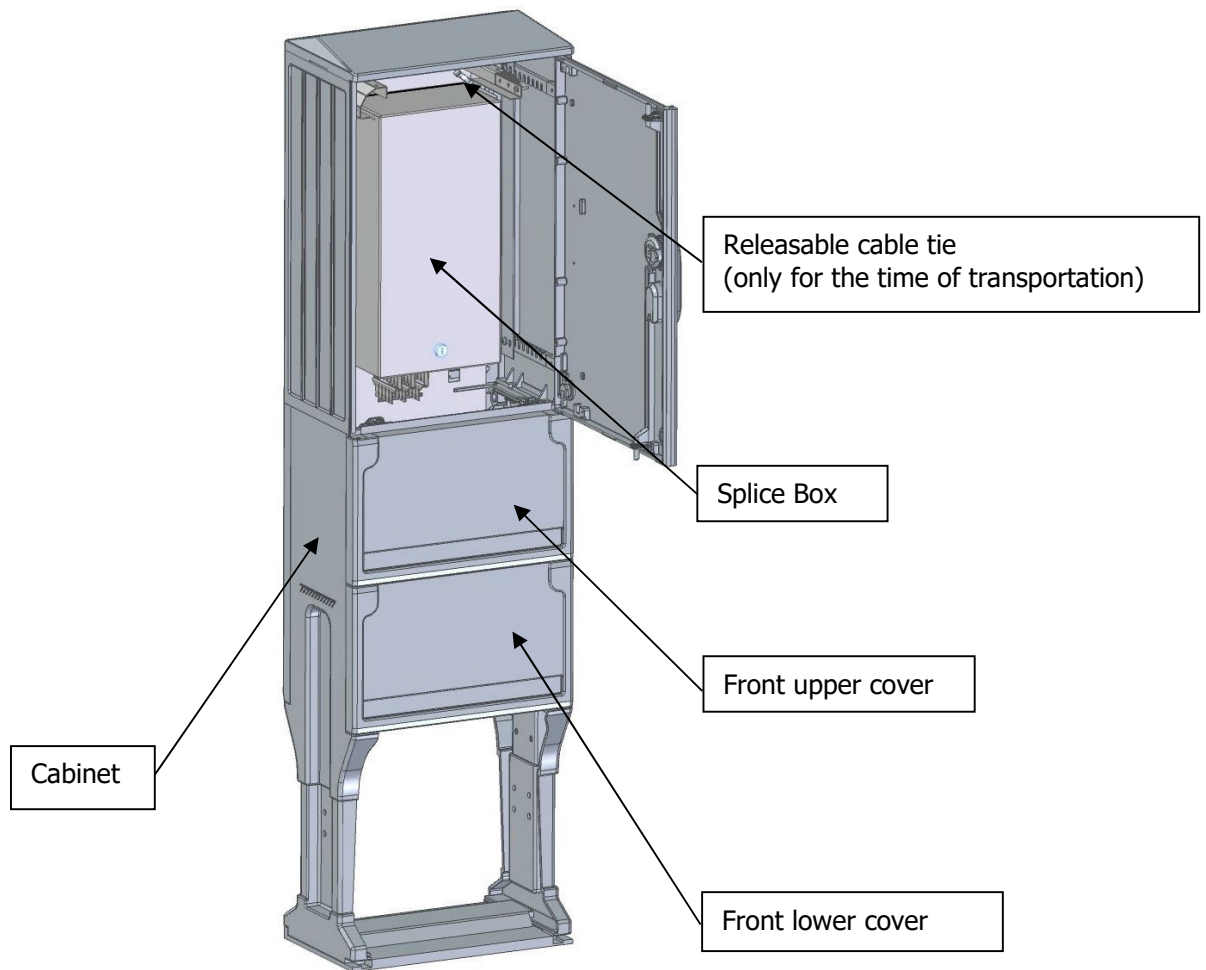
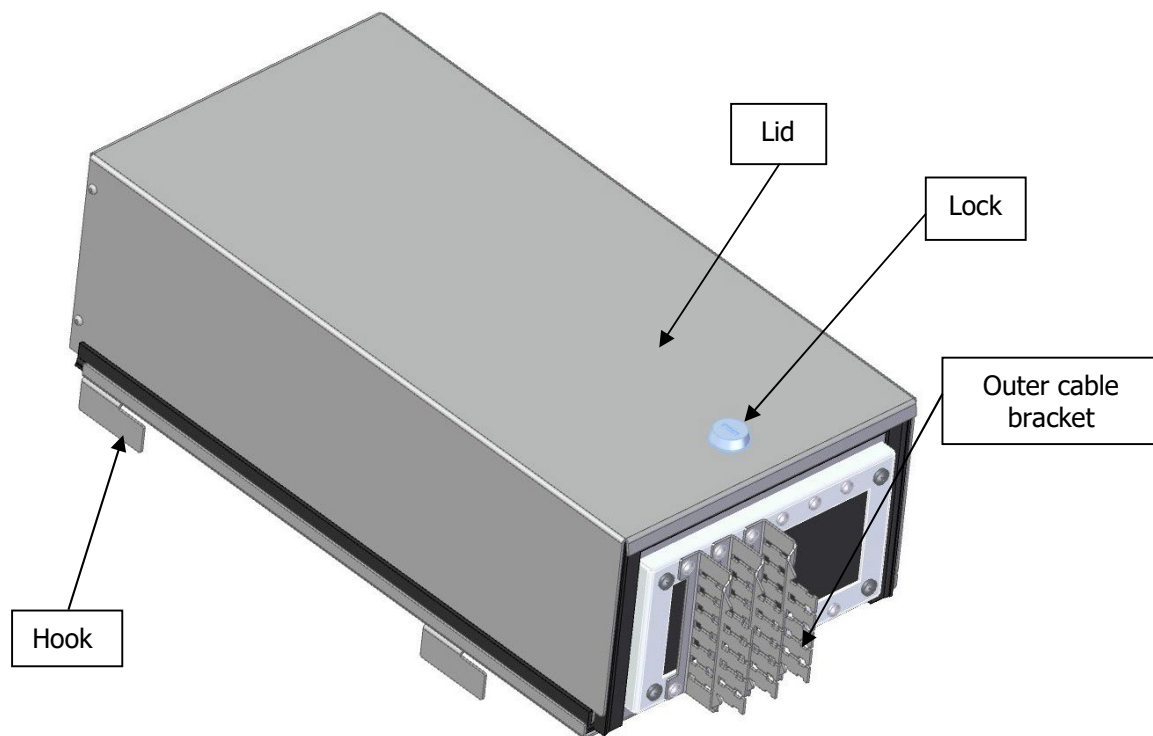
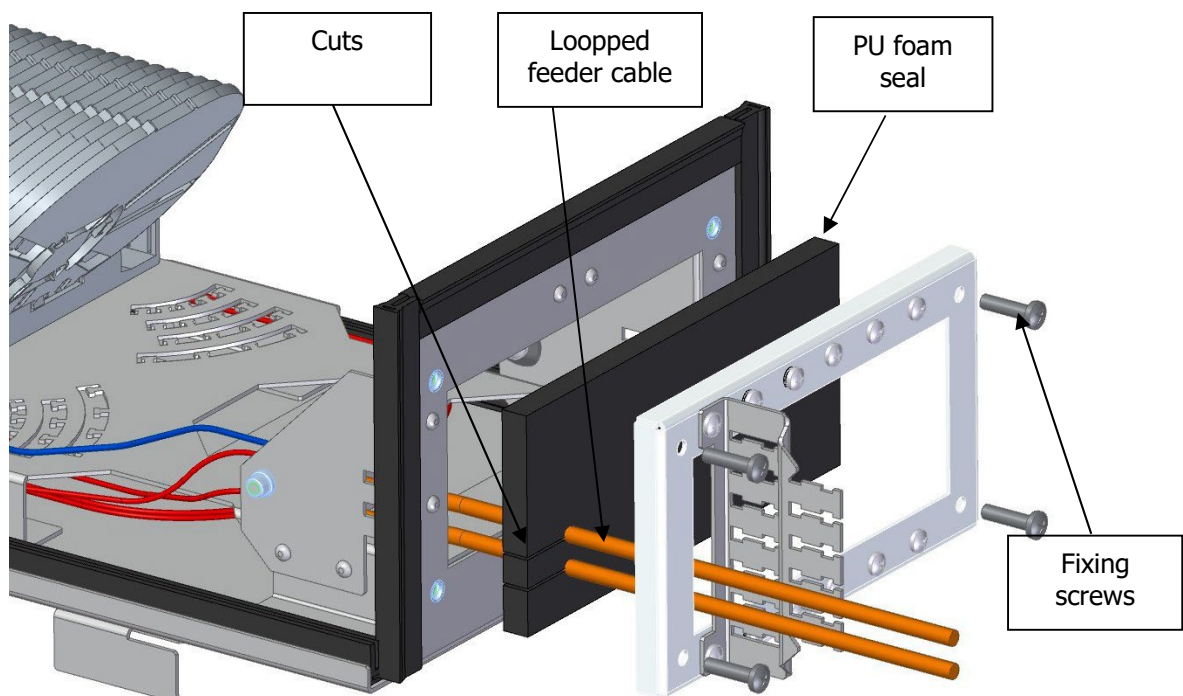

Fig.1. HF-MSS-3/12 Optical Fibre Distribution Cabinet
Fig.2. General view of the Splice Box
Fig.11. Fibre routing in hinged splice tray retention blocks
2. To splice fibres in the splice box, remove two releasable cable ties located at the upper corners of the box, see Fig.1. These are put only for the time of transportation. Remove the splice box by lifting it and sliding forward. The splice box is shown in Fig.2.
2. Remove two releasable cable ties located at the upper corners of the box, see Fig.1. These are put only for the time of transportation. Remove the splice box by lifting it and sliding forward. The splice box is shown in Fig.2.
4. Insert the uncut feeder cable loop into the cabinet. The length of the looped cable should be about 18 m measured from the cable entry points in the cabinet. The feeder cable mid span access is to be made in the middle of the cable loop with the recommended distance of 3 m. The looped cable may be shorter and amount about 16 m, but then the cutting point of the fibre loose tube, which is to be guided to the splice tray needs to be carefully selected. With the 18 m cable loop the fibre loose tube is cut in the middle and the proper end is routed to the splice tray. In case the feeder cable loop is left next to the cabinet and led further to another one, to insert this cable into the splice box, unscrew 4 screws fastening the PU foam seal and cut it on the side as shown in Fig.11. Insert the cable in the cuts made in PU foam. Mount the frame fixing the PU foam, see Fig. 2.